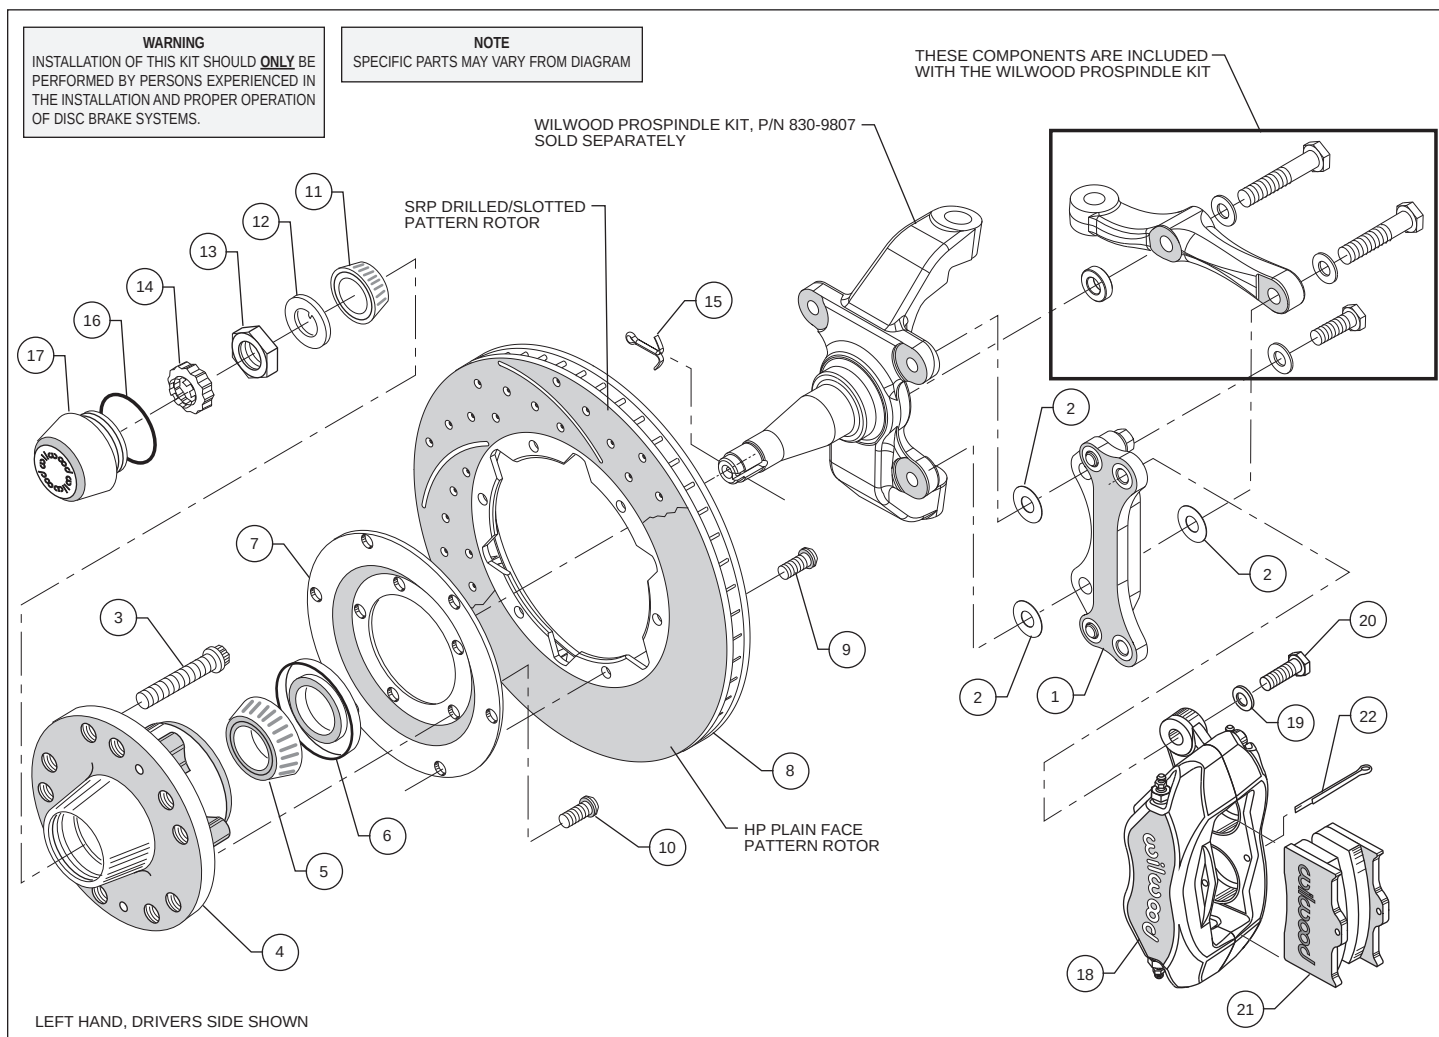

Figure 1. Typical Installation Configuration
- Install wheel studs (3) into the hub (4). Torque to 77 ft-lb. **NOTE:** There are two lug patterns of five holes each in the hub (5 x 4.50 and 5 x 4.75). Make sure of the correct hole pattern for the wheel application before installing the studs into the hub.
- Orient the rotor (8) and the rotor adapter (7) as shown in Figure 1. Attach the rotor to the adapter using bolts (9). Using an alternating sequence, apply red Loctite® 271 to the threads, and torque to 25 ft-lb.
- Mount the adapter/rotor assembly (7/8) to the hub (4) using bolts (10), as shown in Figure 1. Using an alternating sequence, apply red Loctite® 271 to the threads, and torque to 55 ft-lb.
- Pack the large inner bearing cone (5) with high temperature disc brake bearing grease (available from your local auto parts store) and install into the backside of the hub (4).
- Install the grease seal (6) by pressing into the backside of the hub (4).
- Pack the small outer bearing cone (11) with high temperature disc brake bearing grease and install into front of hub (4). Slide the hub assembly (4, 5, and 6) with outer bearing cone (11) onto the spindle. Secure using spindle washer (12), adjusting nut (13) and nut retainer (14). secure to spindle using cotter pin (15). Adjust bearing using a 12" wrench to tighten the adjusting nut while turning the rotor. When the rotor binds slightly, all the bearing parts are seated properly. Back of the nut 1/6 to 1/4 of a turn or enough to allow 0.001 to 0.007 end play. Lock the nut with a new cotter pin. **WARNING:** Failure to back off the adjusting nut may cause the bearing to run hot and be damaged, which could cause the wheel to lock or come off during operation, creating a risk of serious bodily harm.
- Install the o-ring (16) and the dust cap (17) onto the hub (4). Friction created by the o-ring (16) on the dust cap (17) keeps it from unscrewing on its own.